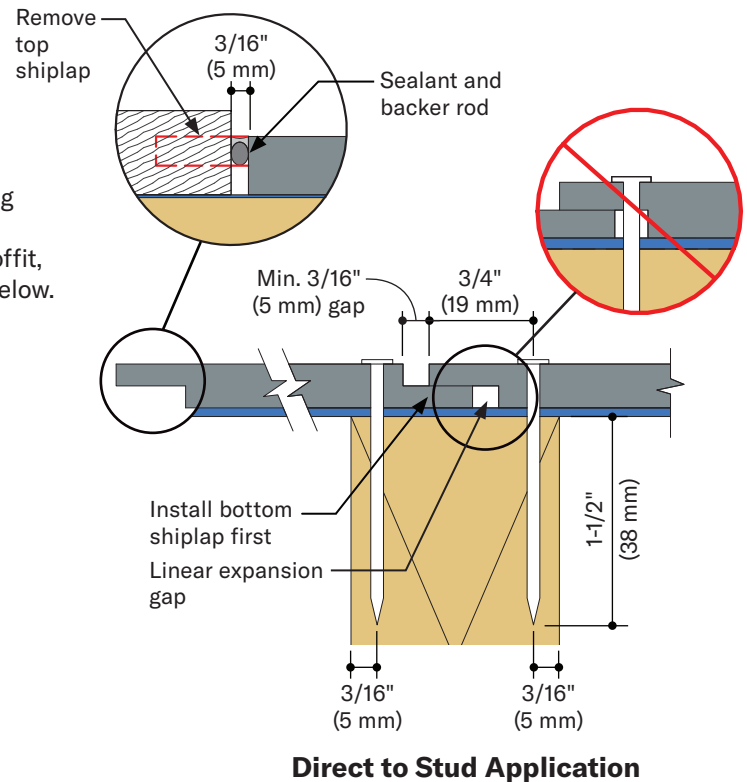

Figure 4b
- Exception: lap joint siding may be used as fascia. Shiplap must be removed to full panel thickness. (Figure 4b)
- Shiplap must be removed to full panel thickness and caulked at window, door and vertical trim intersection. (Figure 4b)
- Butt joints must occur over studs. (Figure 4b)